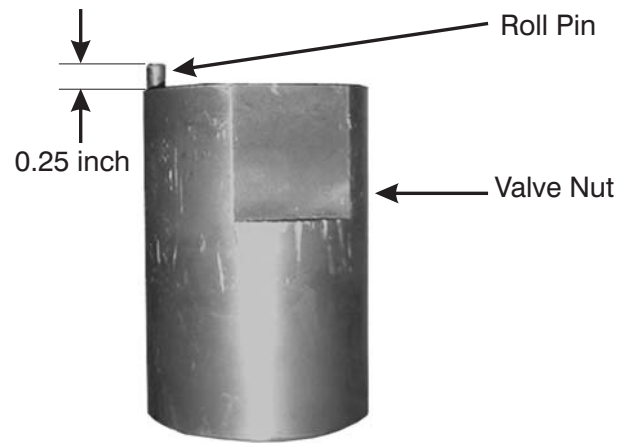

Figure 9-13. Valve Nut and Roll Pin
1. Place the Whip Hose components and Q.D. fittings on the assembly bench. These items are listed below and illustrated in Figure 9-13.
1. Inspect the Valve Nut (12) and Roll Pin (11). Verify that the Roll Pin extends 1/4-inch above the Valve Nut (12), as shown in Figure 9-13.